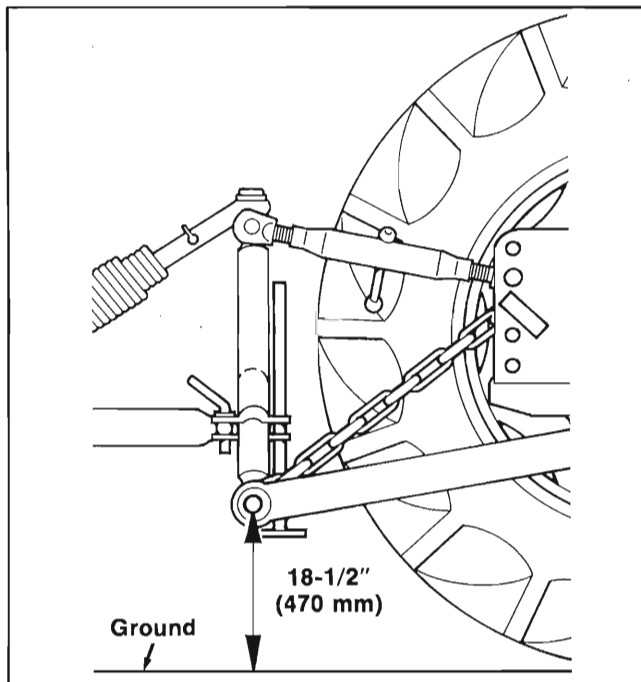
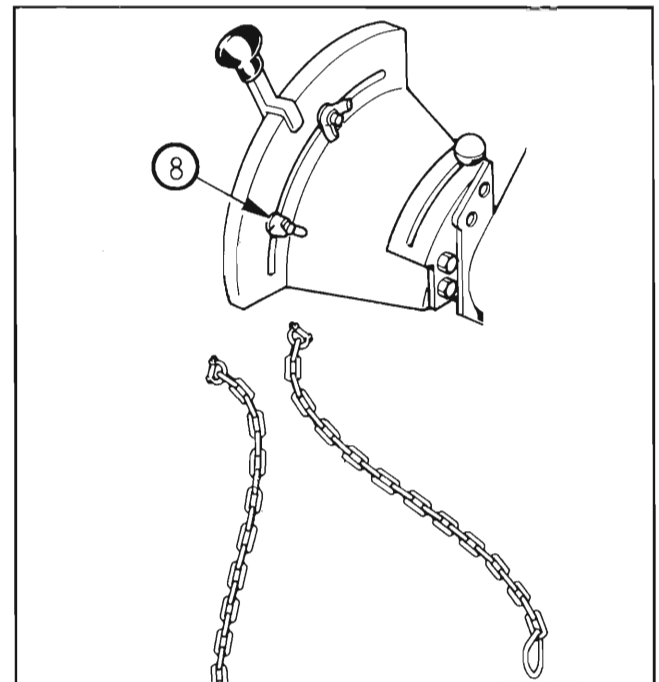

Fig. 22
Fig. 23
6. The Hitch Pins should be set to 18-1/2" (470 mm). (Fig. 22). Fix the position of the Rake using the Limiting Chains (Fig. 23) if necessary. Secure the lower limit of the tractor hydraulic control lever (8 of Fig. 23).